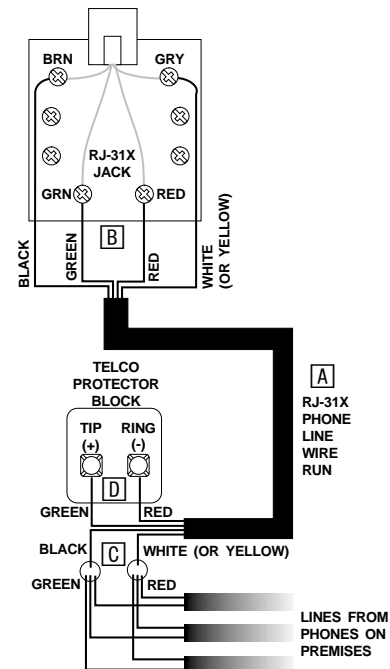

Figure 35. Installing an RJ-31X Phone Jack
1. Run a 4-conductor cable from the TELCO protector block to the jack location (see **A** in Figure 35).
2. Connect one end of the cable to the jack (see **B** in Figure 35).
3. At the TELCO protector block, remove the premises phone lines (lines from phone jacks on premises) from the block and splice them to the black and white (or yellow) wires of the 4-conductor cable (see **C** in Figure 35).
4. Connect the green and red wires from the 4-conductor cable to the TIP (+) and RING (-) posts on the block (see **D** in Figure 35).